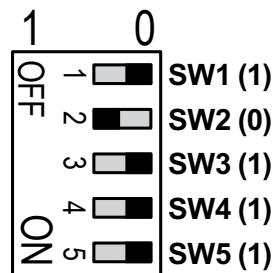

Figure 1-23
1. DIP switch settings (Refer to *Figure 1-23* and the *DIP Switch Table 1-1*)